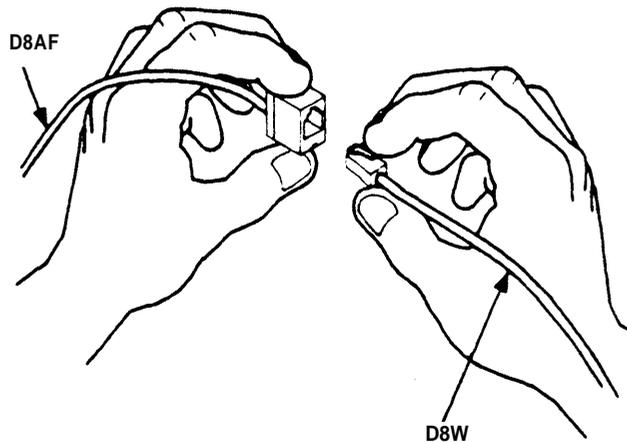

Figure 18
- 7. Plug the loose end of the D8W Modular Terminal Cord from the voice terminal into the jack of the D8AF Extension Cord (Figure 18), the customer-installable jack, or the control unit. The red light beside the button on the voice terminal for line “A” will light as soon as the connection is complete. If the red light does not go on, see the “Testing the Voice Terminals” section.